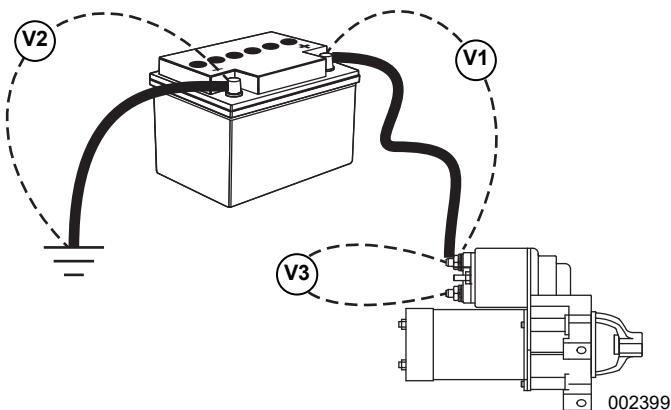
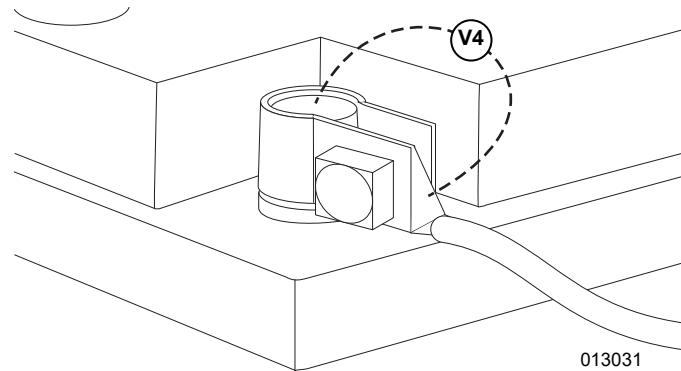

Figure 3-44.
Figure 3-45.
2. See Figure 3-44 and Figure 3-45. Refer to battery post and starter connections and perform a voltage drop tests as indicated.
4. Record readings from test points V1, V2, V3, and V4 as depicted in Figure Figure 3-44 and Figure Figure 3-45.